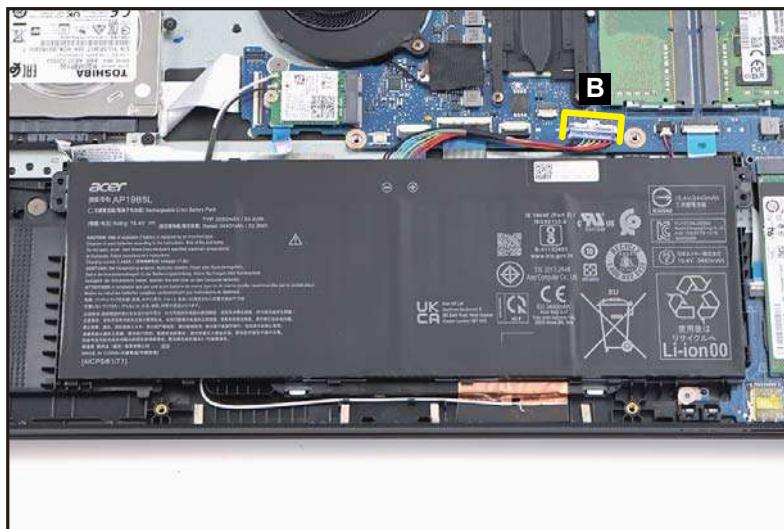

Figure 3-126. Replacing the Battery Pack
2. Connect the battery cable to the mainboard connector (B) (Figure 3-126).